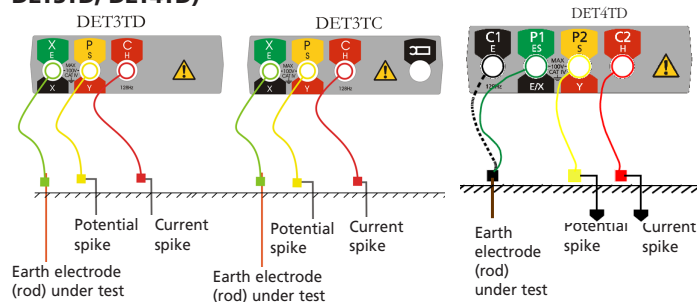

Figure 5: Connections for measuring three-terminal ground rod resistance
1. With the selector switch in the 'OFF' position, connect the instrument as shown in Figure 5.
1. With the selector switch in the 'OFF' position, connect the instrument as shown in Figure 5, with the lead shown dotted connecting terminal 'C1' to the earth electrode (rod) under test.